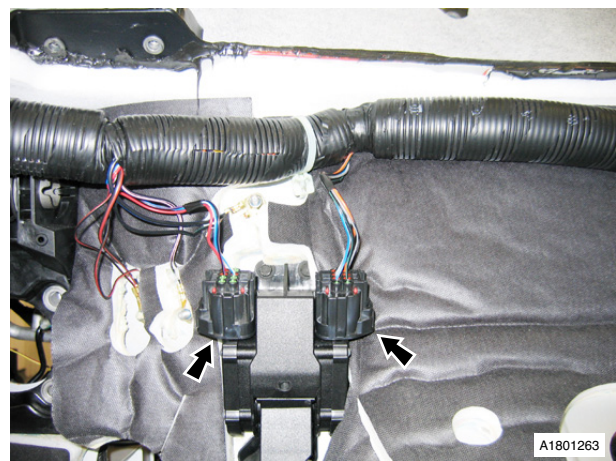

Fig. 1
1. Connect throttle pedal multiplugs (x2) (see Fig. 1).